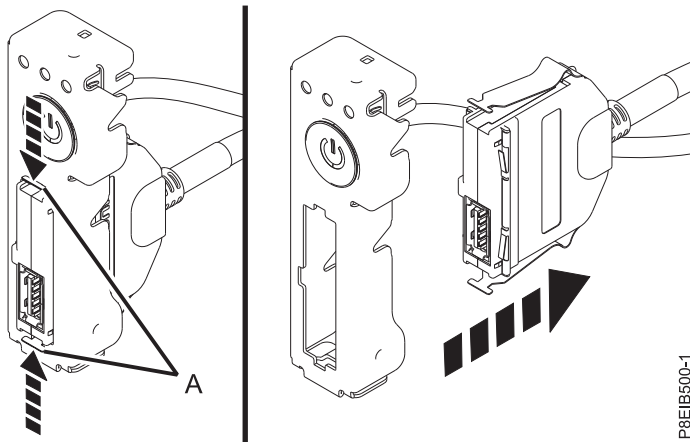

Figure 107. Removing front USB cable from power switch
10. Pressing the latch releases on the connector (A), disconnect the front USB cable from the power switch. See Figure 107 on page 90.